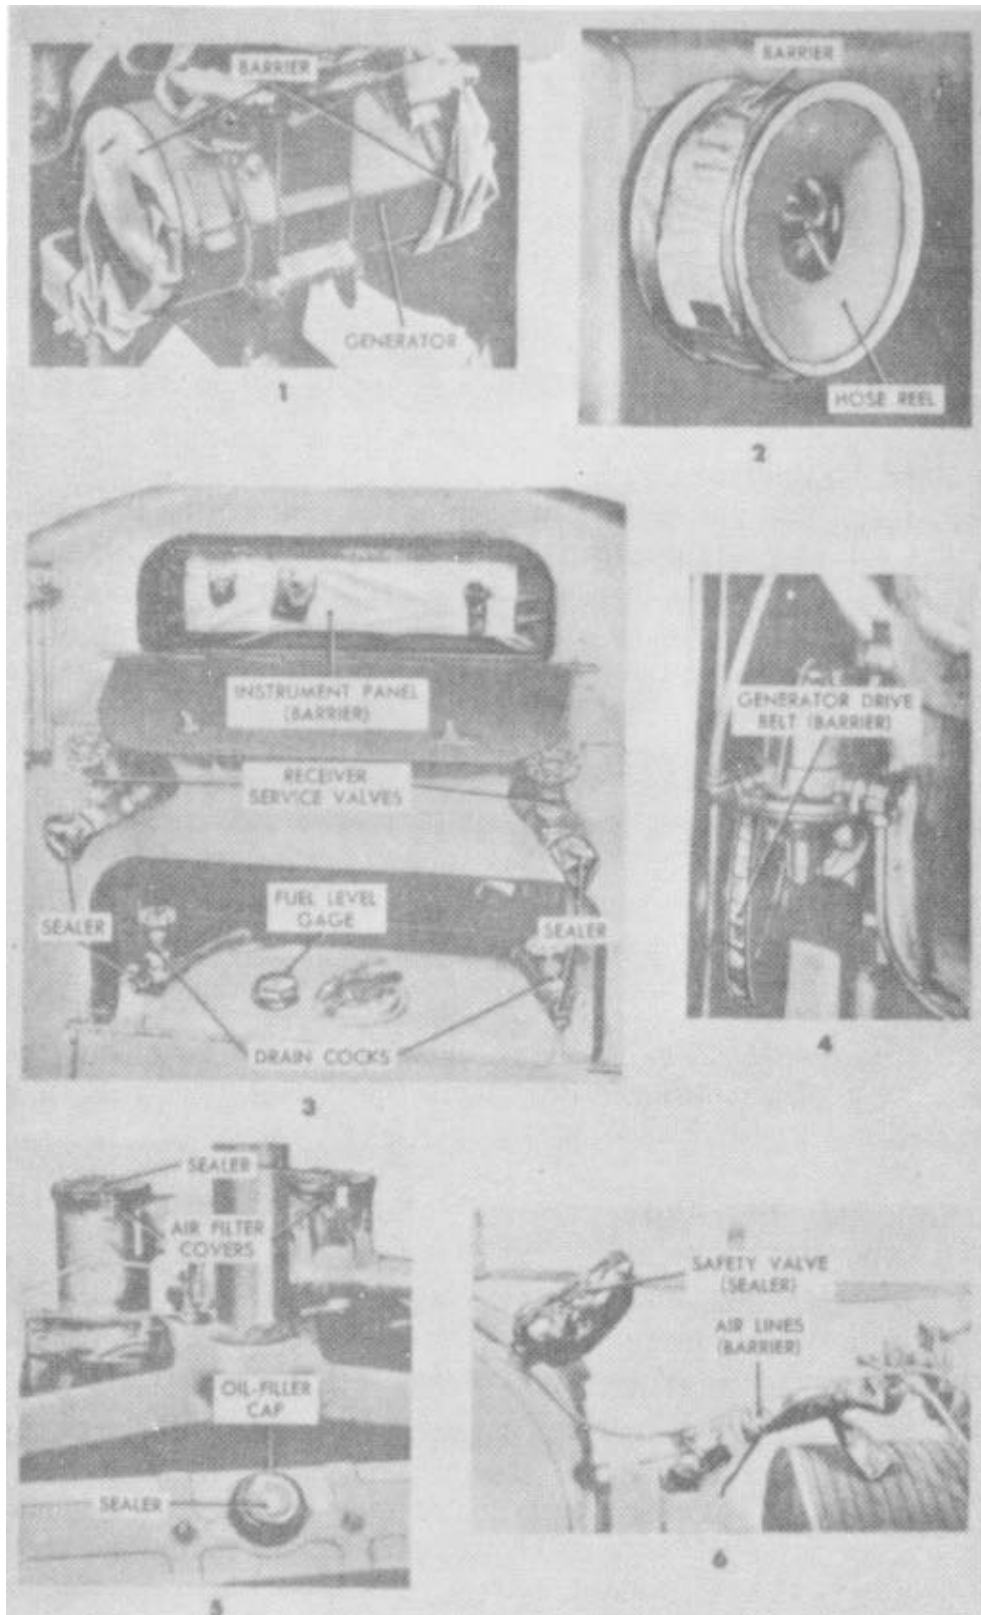
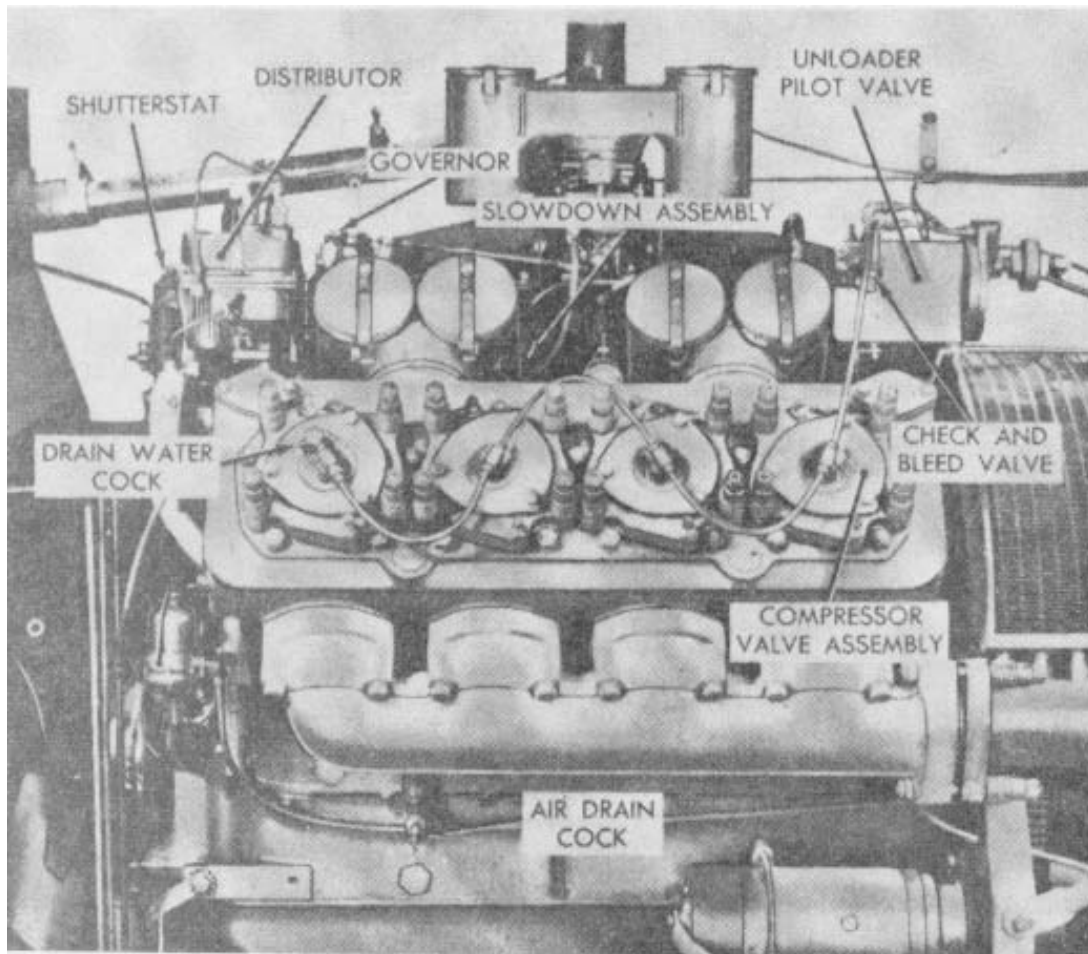
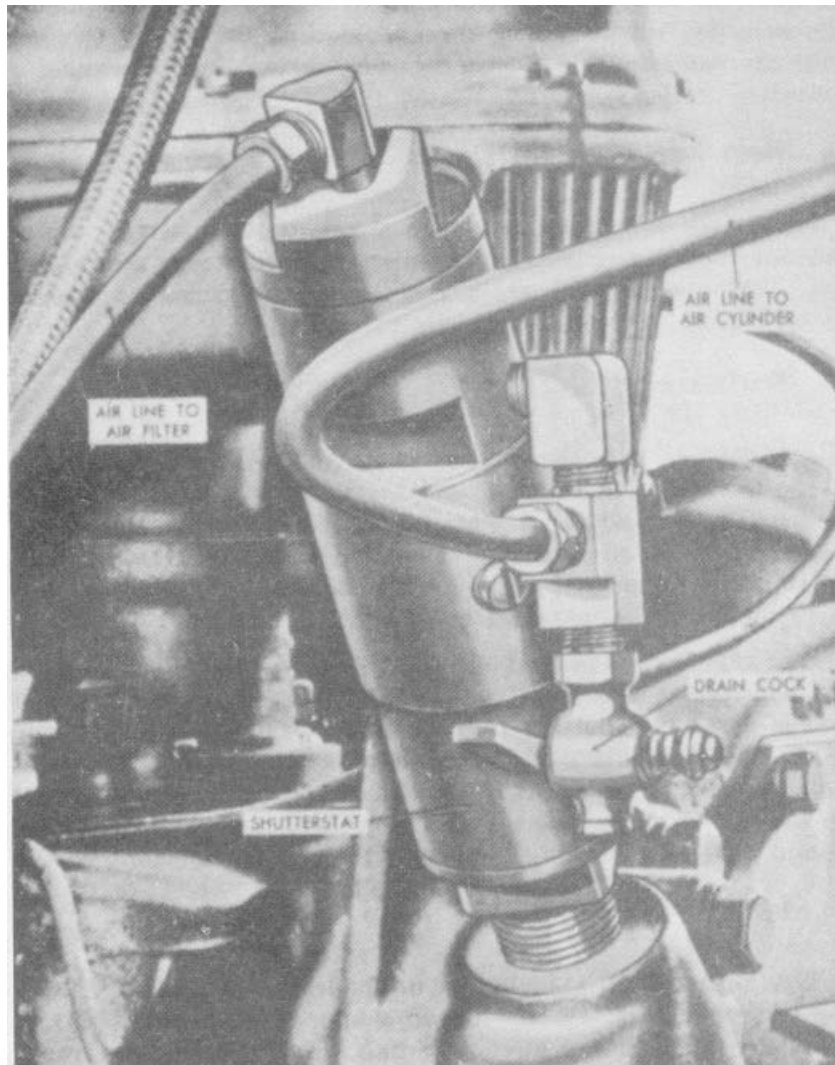
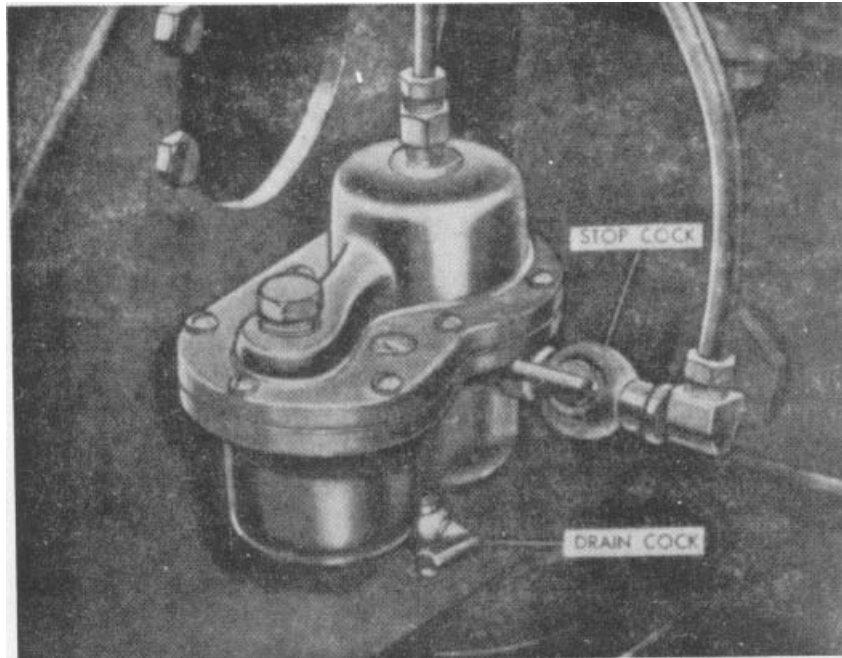

Figure 7. Preservative and protective measures for shipment.
Figure 8. Engine and compressor with housing removed.
Figure 12. Shutterstat.
Figure 15. Shutter air filter.
b. *Removal of Preservative Compounds and Devices (fig. 7).* All engine openings, electrical component openings, control system components and gages have been preserved and protected in accordance with applicable specifications for oversea shipment, and the compressor is not ready for operation until the necessary depreservation services have been performed. Protected points are illustrated in figure 7. Remove the moisture-proof barrier from the generator (1), hose reel (2), instrument panel (3), fuel level gage (3) and air lines (6). Peel the wax-like sealer from the receiver service valves (3), drain cocks (3), air filter covers (5), oil filler cap (5) and safety valve (6). Unwrap the paper from the generator drive belt (4). After all preservatives and tapes have been removed, wipe the protected surfaces of the various components with a cloth dampened in solvent to remove all traces of preservative. After battery cables have been unwrapped, clean terminal posts carefully and connect cables between the batteries.
- (1) Drain the preservative oil from the crankcase and lubricate the equipment as instructed in paragraph 42.
(fig. 8)
(fig. 12)
left-front corner of the radiator; one is located on each side of the engine-compressor crankcase (fig. 8); two are connected by piping to the air receiver and are accessible through the lower access door at the rear of the housing (fig. 7); one is tapped into a tube elbow at the top of the slowdown assembly (6, fig. 46); one is located at the shutter air filter (fig. 15); one is installed in the tubing which connects to the shutterstat (fig. 12); one is located in the compressor valve closest to the radiator (fig. 8).